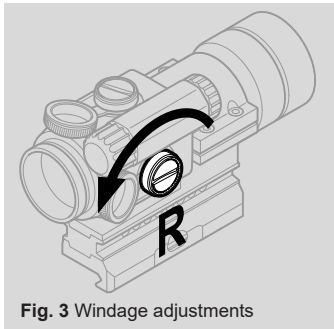
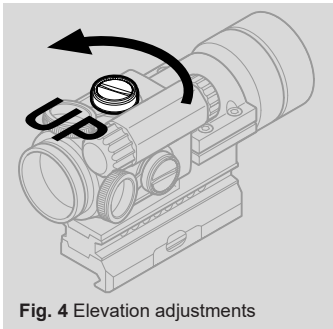

Fig. 3 Windage adjustments
Fig. 4 Elevation adjustments
- e Windage adjustment (see Fig. 3)
- Turn windage adjustment screw (6) counterclockwise to move point of impact to the right.
- Turn windage adjustment screw (6) clockwise to move point of impact to the left
- f Elevation adjustment (see Fig. 4)
- Turn elevation adjustment screw (5) counterclockwise to move the point of impact up.
- Turn elevation adjustment screw (5) clockwise to move the point of impact down.